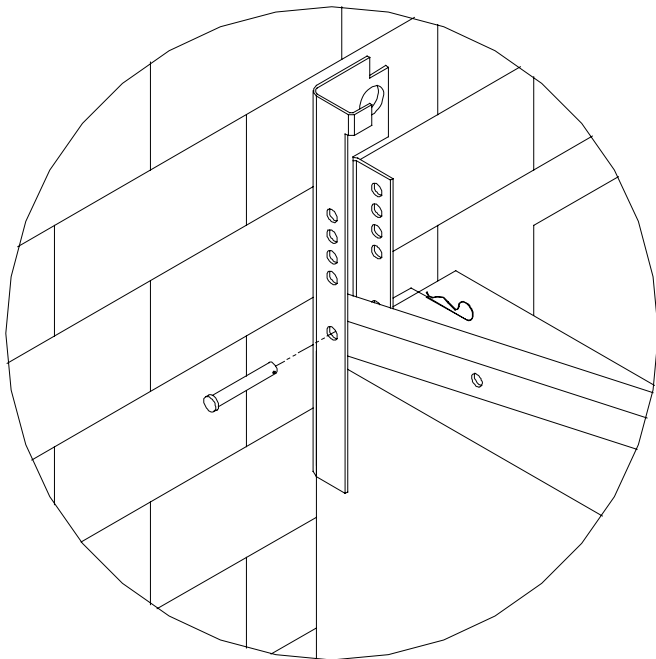

FIGURE 2
3. Insert the clevis pin in from outside until it comes through the inside of the bracket. Install the supplied bridge pin so it cannot slide back out. Do this for both sides. (See Figure 2)